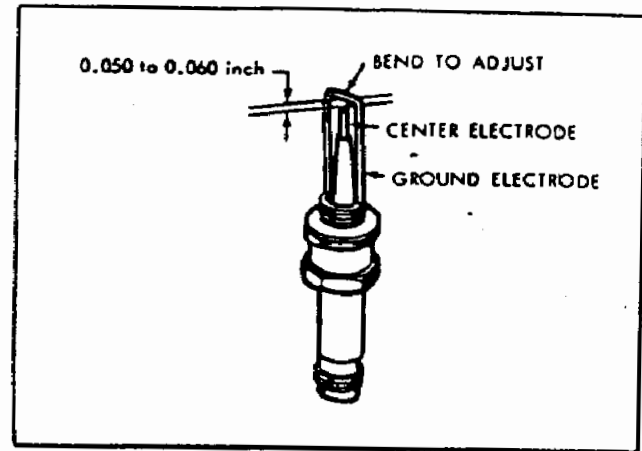

FIGURE 3-9 Type I Spark Plug
Type I Spark Plug has a center electrode and an attached ground electrode bail (see Figure 3-9).
- (1) If the spark plug appears to be in good condition, except for a mild coating of oxide on the porcelain and electrodes, it may be cleaned and reused. Cleaning is accomplished on a conventional aircraft type spark plug cleaner, except that it will be necessary to use two or more adapters in order to raise the long extension of the plug far enough out of the cleaner nozzle opening to provide an effective job. Plug the ceramic insert cavity at the terminal-end of the plug with a piece of paper or cloth to keep out any of the cleaning sand. Wipe this cavity out thoroughly with a cloth. If, after cleaning spark plug, porcelain is then white, and the electrodes are not eroded, re-gap the spark plug by carefully bending the ground electrode until a 0.055 inch feeler gage can be inserted between the end of the center electrode and the ground electrode. (See Figure 3-9.)